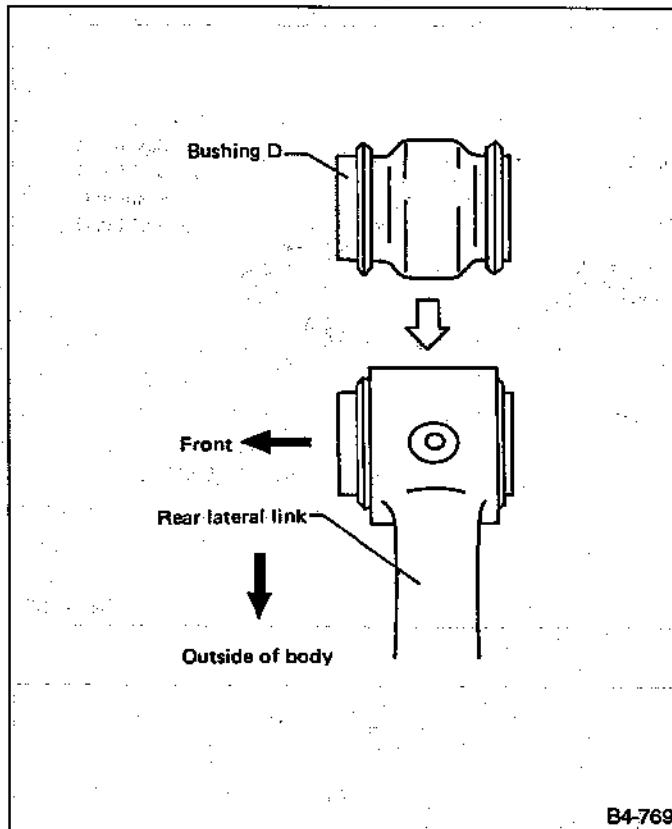

Fig. 83
b. Pay attention to the direction of bushing "D" as shown in figure 83.